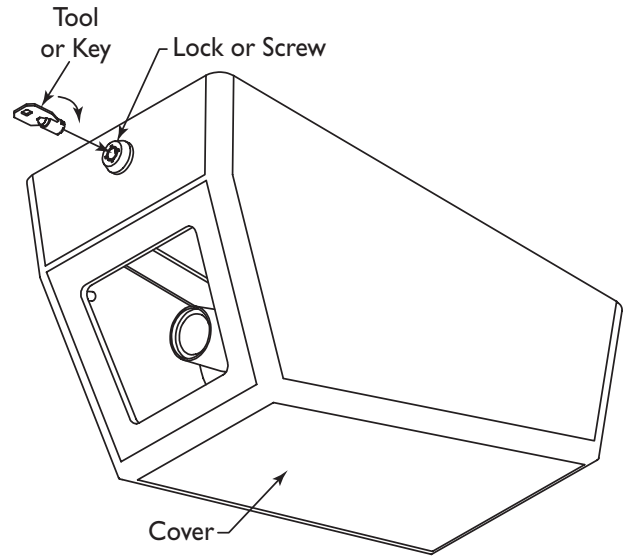

Figure 15: Securing the Cover
3. **All Models:** Secure the cover by screwing the tamper-resistant screw or the lock down tight to the cover. See **Figure 15**.